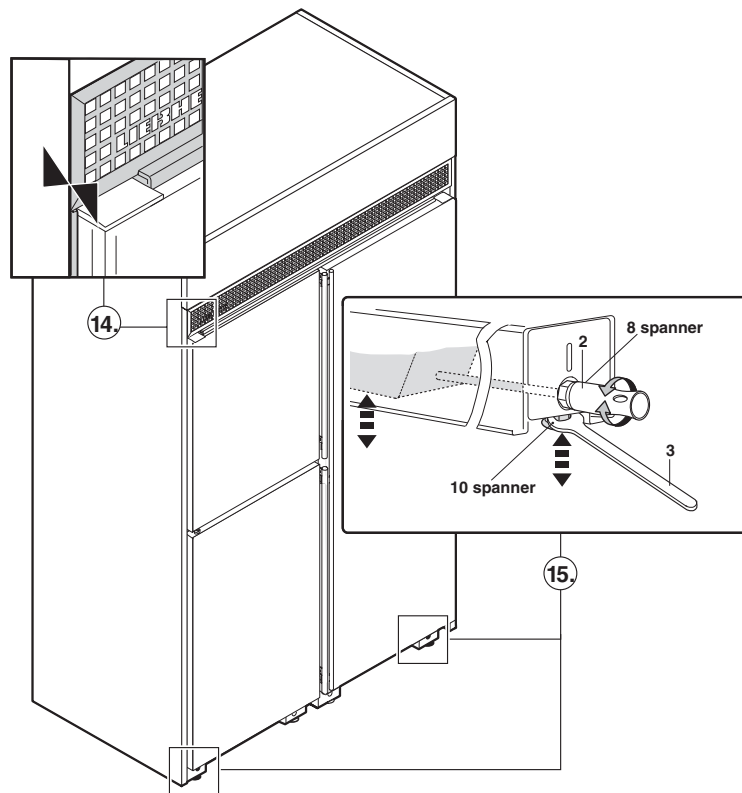

Figure 31
14. Carefully slide the connected appliances into the recess until the ventilation grille touches the top, **Figure 31**.